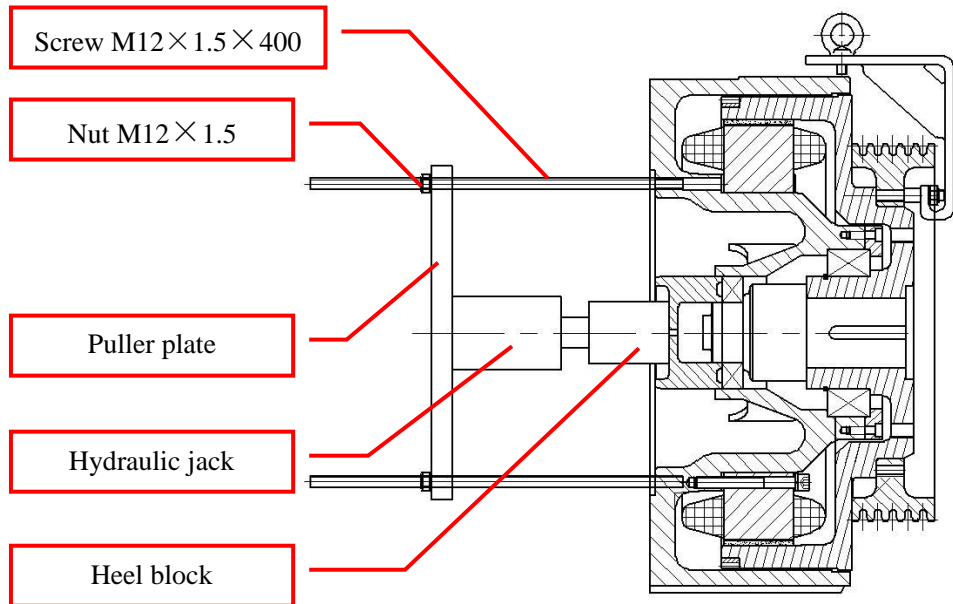

Figure 61: Install Puller plate, hydraulic jack, and heel block
8. Install two screws M12×1.5×400 into two corresponding threaded holes of the machine base, then install the puller plate and screw on nuts M12×1.5 to secure it. Put hydraulic jack and heel block between the guide sleeve and the puller, then increase the pressure of the hydraulic jack to push out the rotor components. See Figure 61.